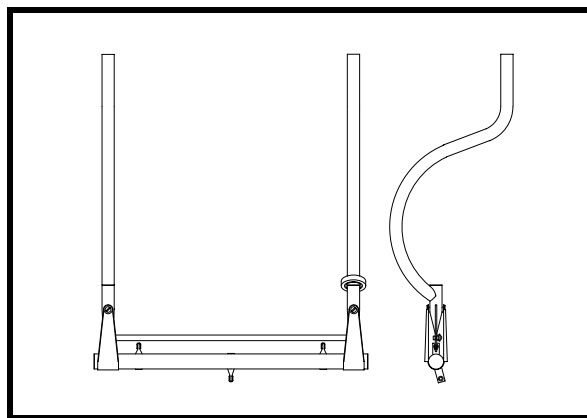

Figure 32
- ❑ Install the two control sticks on P/N 701 as shown in Figure 32. See Drawing No. 126.